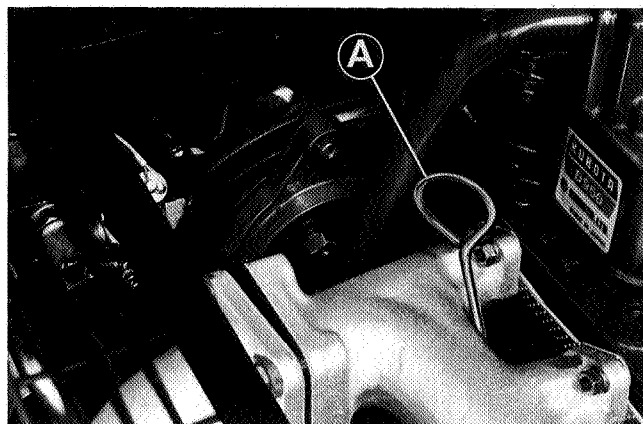

Abb.11
2. Engine Lubrication Oil (Fig.11)
- Fill the engine sump with heavy duty (HD) oil to API classification CC/CD grade through the filler (see also chart on page 8).
2. Motor-Schmieröl (Abb.11)
2. Huile de lubrification du moteur (Fig.11)
2. Smeerolie voor motor (Afb.11)